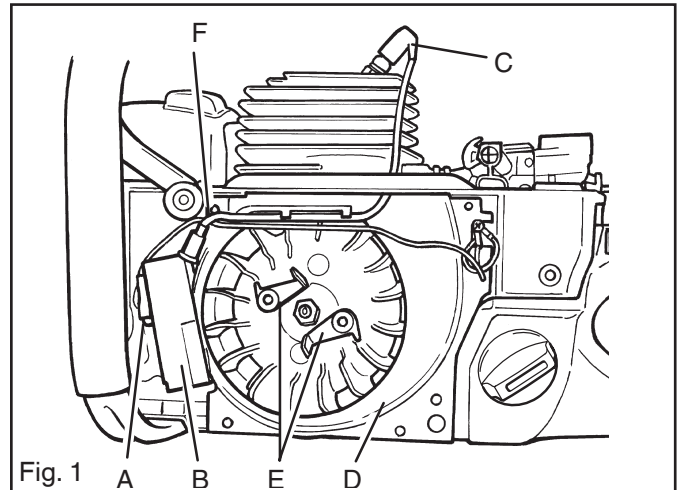
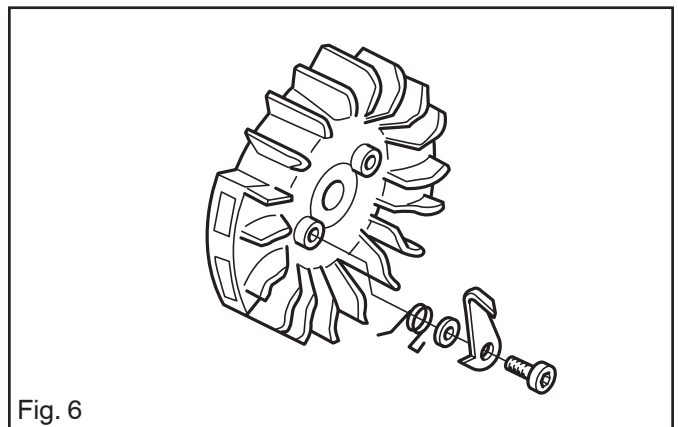

Fig. 1
Fig. 6
7. Wind the cord onto the starter pulley and rotate the pulley clockwise until the cord is correctly tensioned. See fig. 6.
2. Release the blue lead (A) (which connects to the stop button) from the ignition module (B). See fig. 1.
3. Remove the ignition cable (C) from the spark plug and release both cables from the cable guide (D), and remove the cable guide. See fig. 1.
4. Remove the two M5 bolts and lift off the ignition module (B). See fig. 1.
5. Remove the two pawls (E) for the starter. See fig. 1 and fig. 6.
3. Fit the two pawls on the flywheel. See fig. 6.
9. Fit the cable guide (D) See fig. 1 and install the ignition cable. Connect the ignition cable to the spark plug.
10. Pull out the cable and install the cable clip (F) on the ignition module. See fig. 1.